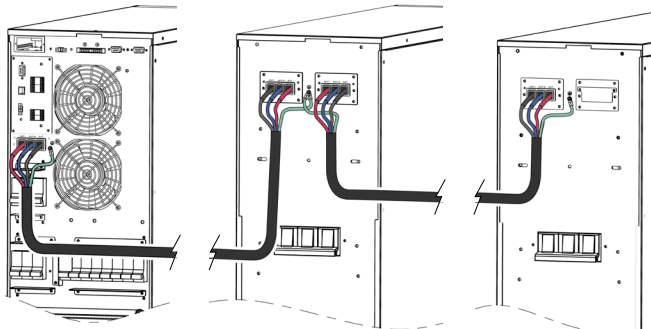
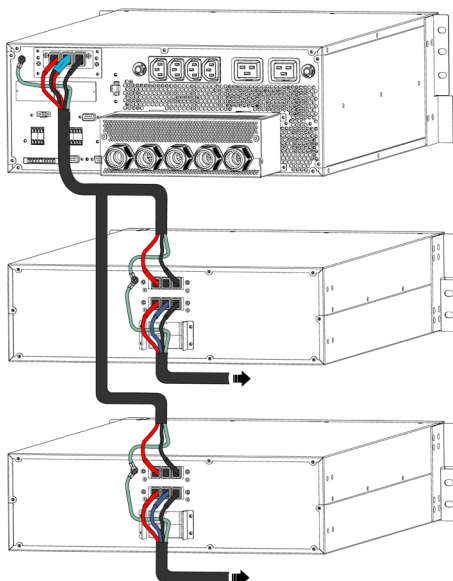

Fig. 43. Connection between the UPS and one or several battery cabinets.
Fig. 45. Connection between the 15 and 20 kVA rack version UPS and one or more battery cabinets.
- For extended autonomy where **more than one module or battery cabinet** is supplied, the connection will always be in parallel between them and the unit (see Fig. 43 to Fig. 45).